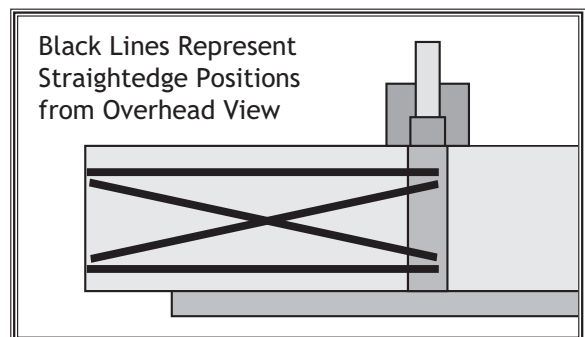

Figure 38. Straightedge positions for verifying outfeed table parallelism.
4. Place straightedge in the positions shown in **Figure 38**. In each position, straightedge should touch cutterhead and sit flat on outfeed table.